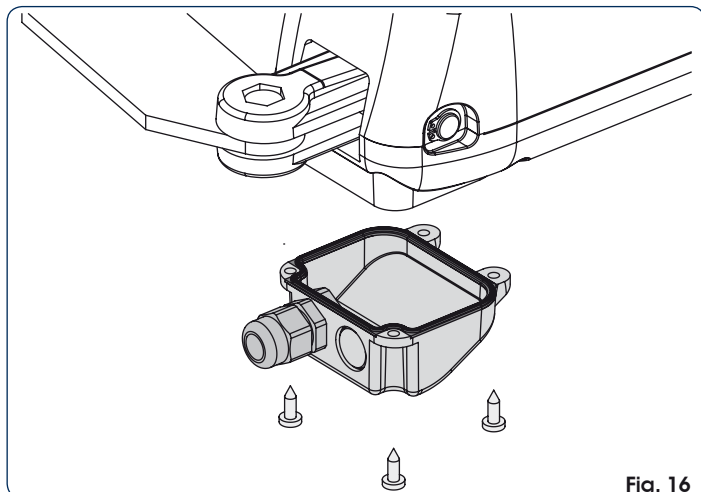

Fig. 16
4. Close the cover with the four supplied screws, Fig.16.